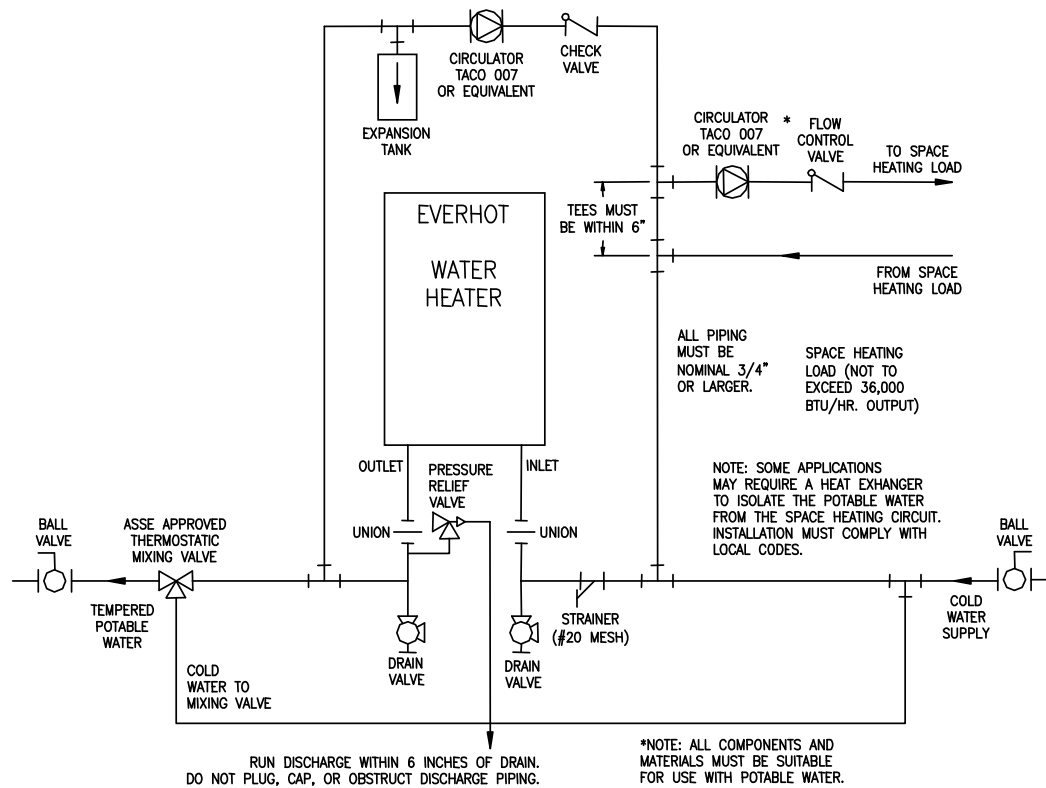

Figure 9. Recommended Piping for Combination Water and Space Heating Applications.
4. In order to assure adequate flow through the water heater, follow the recommended piping diagram and circulator specifications (see Figure 9).